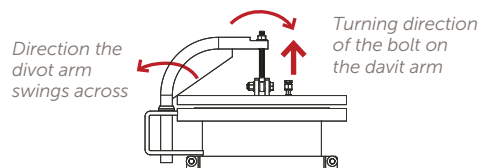

Figure 25.
2. Turn the bolt on the davit arm clockwise to lift the housing top flange, Figure 25.